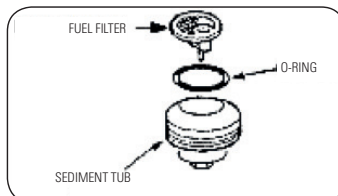

FIGURE 9.4
- C.** Reinstall the cup and the sealing O´ring. Figure 9.4.